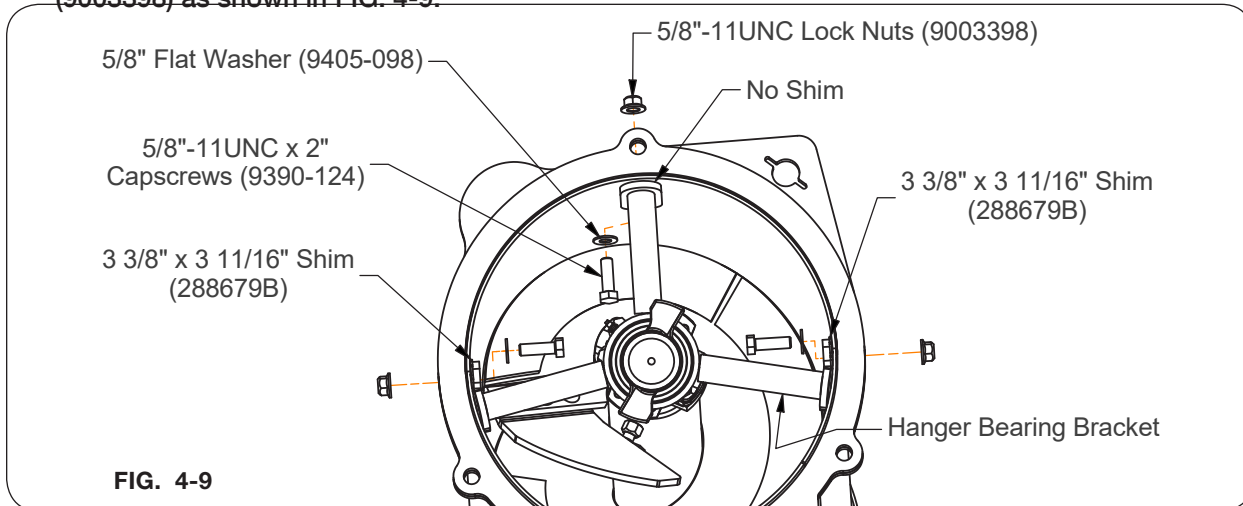

FIG. 4-9
11. Apply anti-seize to the splines before sliding the drive dog into the u-joint. Time the drive dog (as in Fig. 4-9) with the finished edge of the flighting at 12 o'clock reference. Position the drive dog so the driving edge is at 11 o'clock position.
- Loosely secure the hanger bearing using two 3 3/8" x 3 11/16" shims (288679B), three 5/8"-11UNC x 2" capscrews (9390-124), three 5/8" flat washers (9405-098), and three 5/8"-11UNC lock nuts (9003398) as shown in FIG. 4-9.